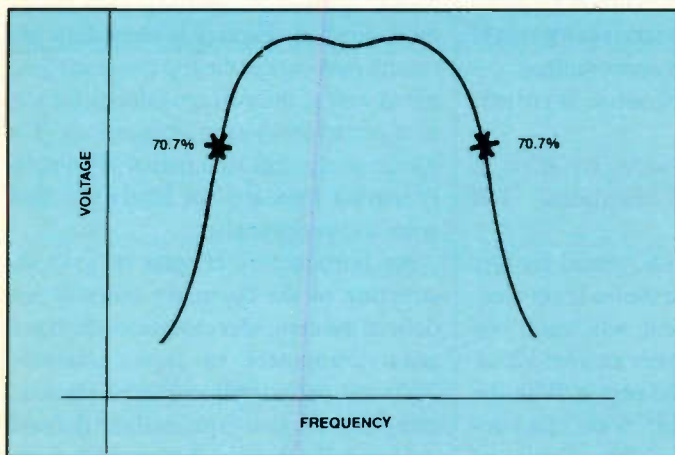

Figure 1
1. The 70.7% points on the curve of Figure 1 are used to mark the